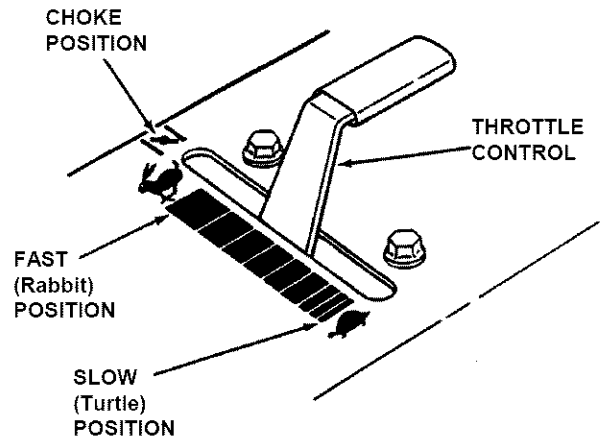

FIGURE 3.4
5. Move Throttle Control to "FAST/CHOKE" position, if so equipped. See Figure 3.4.
4. Move Engine Speed Control to the FAST (Rabbit) position. Refer to Figure 3.4.